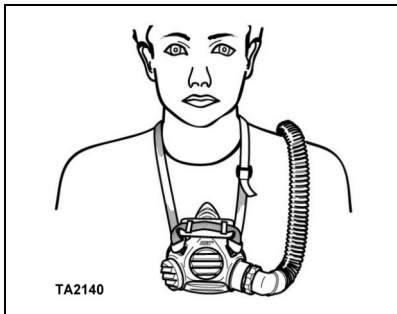

Fig. 1
4. Adjust the harness so that the buckle is away from the mask and the head pad rests on top of the mask. Place the strap around the neck (see *Fig. 1*).